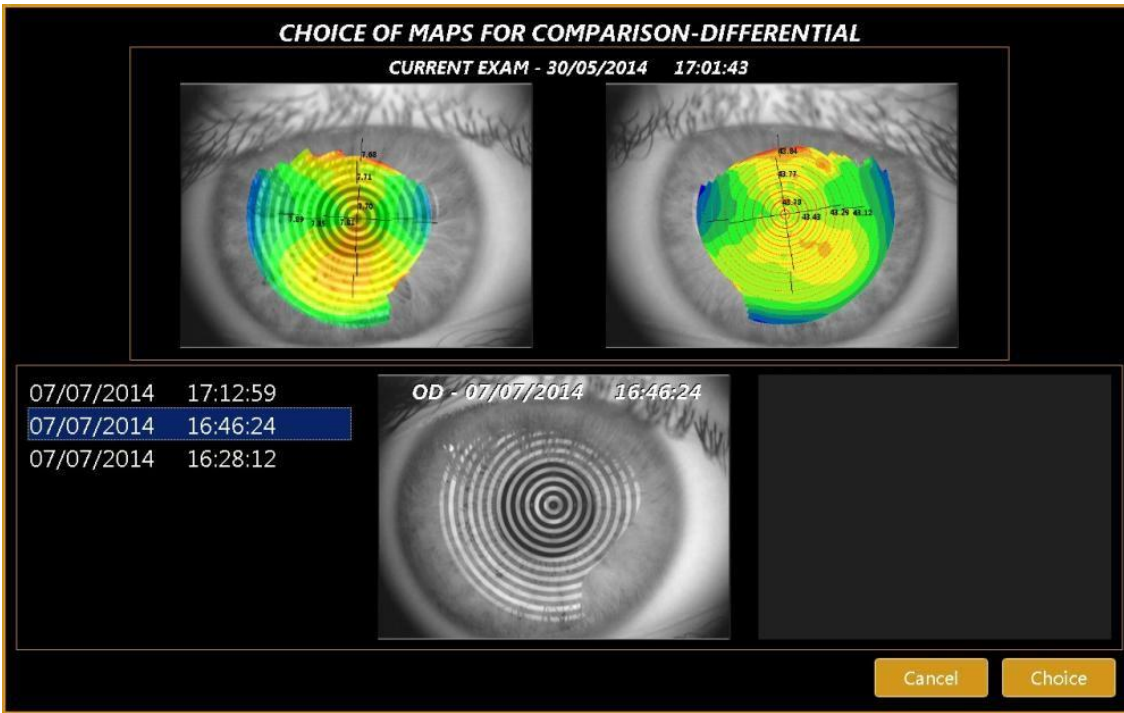

Fig. 60
- ✓ **Differential**: the user can select the image of another exam of the same patient to compare it with the current exam (Fig. 60).